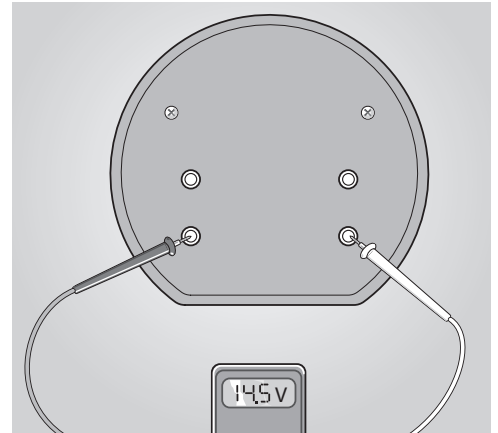

Fig. 1.1
- Check the 12 Volts AC on the end bell of generator using an AC Voltmeter (See Fig. 1.1). They should read approx. 14.5 Volts, 60Hz.